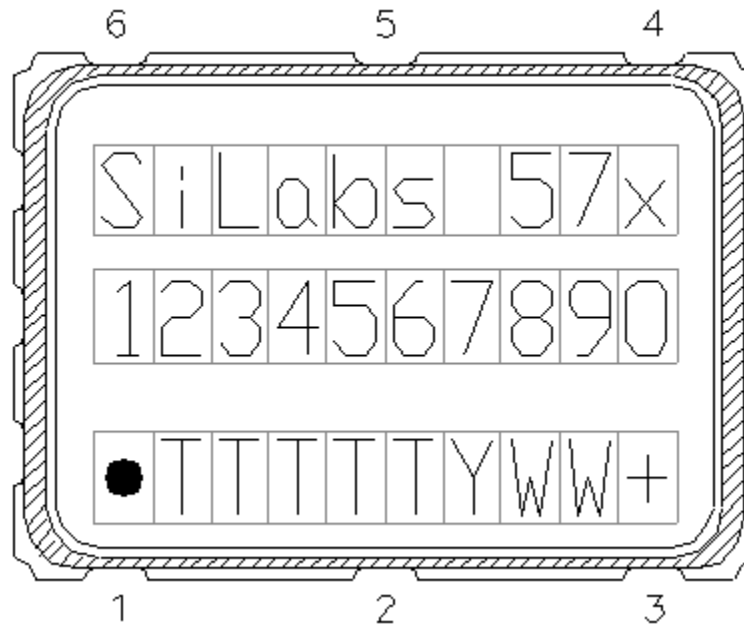

Figure 7. Mark Specification
Figure 7 illustrates the mark specification for the Si57x. Table 16 lists the line information.
- Updated Figure 7 and Table 16 on page 28 to reflect specific marking information. Previously, Figure 7 was generic.